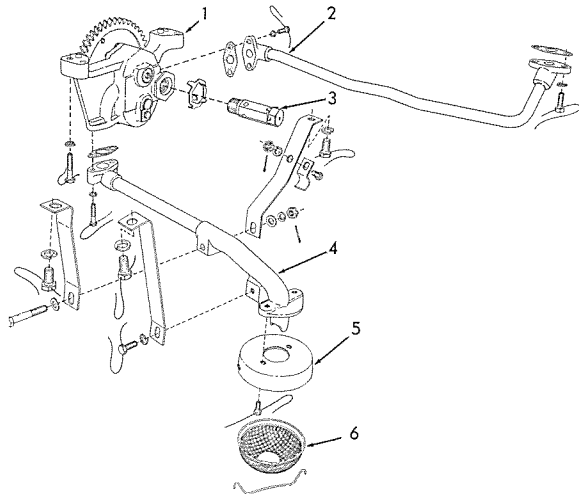
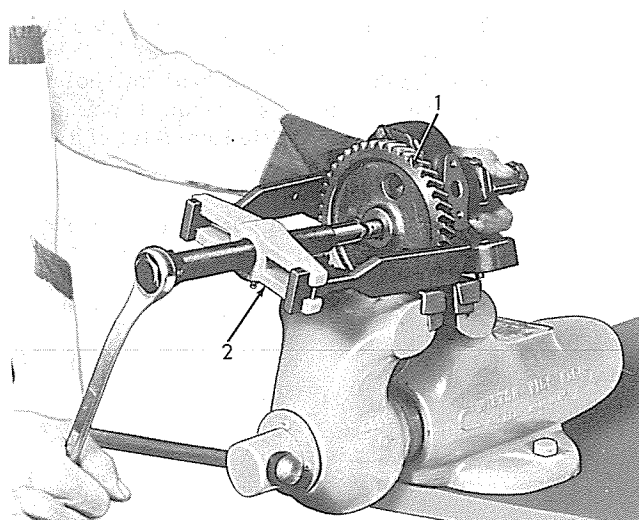
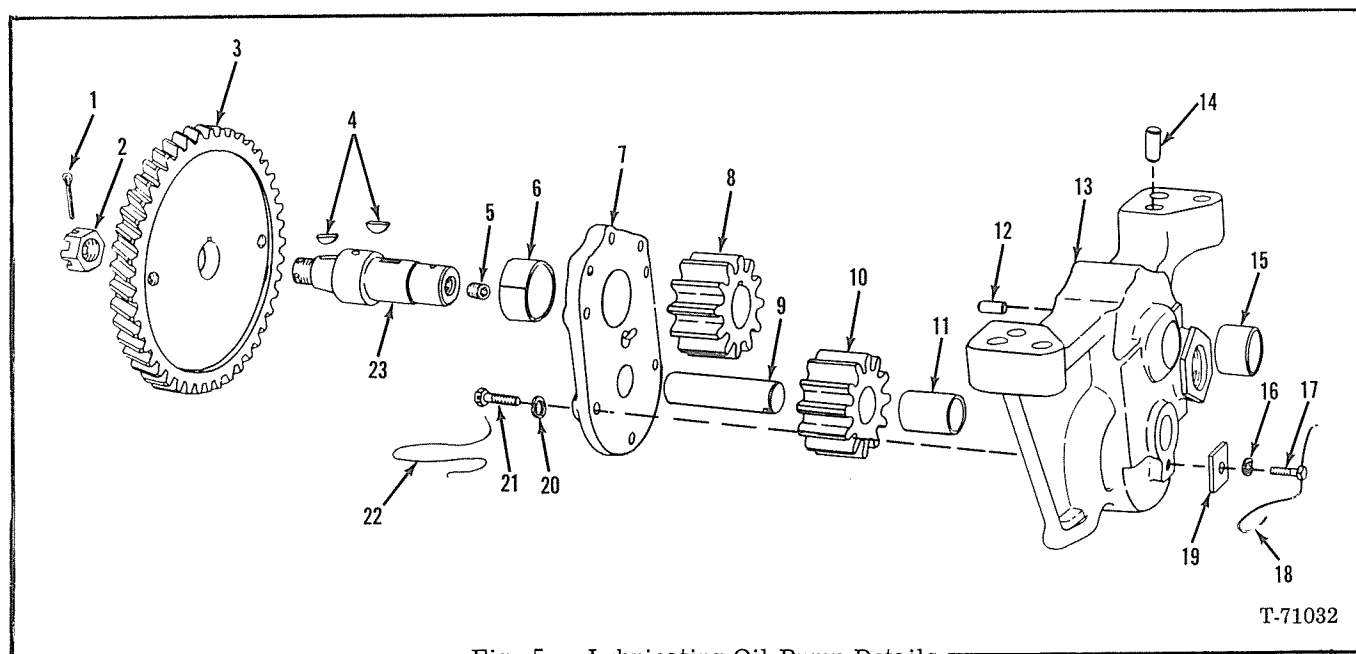

Fig. 2 — Tubing Arrangement (All Units Except Track-Type Tractors) (T-15138)
Fig. 4 — Removing Lubricating Oil Pump Driving Gear
Fig. 5 — Lubricating Oil Pump Details
1. OIL PRESSURE PUMP REMOVAL (Figs. 2, 3)
- b. Remove oil pressure pump discharge pipe (2).
- c. Remove oil pressure pump suction pipe (4).
- d. Remove lockwire, capscrews, and lockwashers securing lubricating oil pump assembly (1) to cylinder block and remove oil pump assembly.
- a. Thoroughly wash pump assembly. Remove cotter pin (1) and nut (2). Using tools similar to the ones shown in Fig. 4, pull gear, Fig. 5 (3) from shaft (23). Remove Woodruff key (4). File off any burrs on shaft.
- b. Remove locking wires (22), capscrews (21), and lockwashers (20). Tap cover (7) lightly to loosen it from dowel pin (12) and remove cover (7).
- c. Remove shaft (23) with gear (8).
- d. Slide gear (10) from shaft (9).
- e. Unlock and remove pressure relief valve, Fig. 2 or 3 (3).
- f. Remove lockwire (18), capscrew (17), lockwasher (16) and remove retainer (19) and shaft (9).
1. OIL PRESSURE PUMP ASSEMBLY (Fig. 5)
- a. Install lower shaft (9) in pump housing (13) and secure with retainer (19), lockwasher (16), and capscrew (17). Lock capscrew (17) with locking wire (18).
- b. Install gear (10) in position on shaft (9).
- c. Insert upper shaft (23) with gear (8) into housing (13).
- d. Position cover (7) over dowel pin (12) and secure with capscrews (21), lockwashers (20), and locking wires (22).
- e. Install Woodruff key (4) in shaft (23) and press driving gear (3) into shaft. Install nut (2), tighten to a torque of 75 - 85 lbs. ft. and install cotter pin (1).
- a. Install oil pump (1) on cylinder block, inserting dowel pins, Fig. 5 (14) into holes in cylinder block, and secure pump with capscrews, lockwashers, and locking wire.